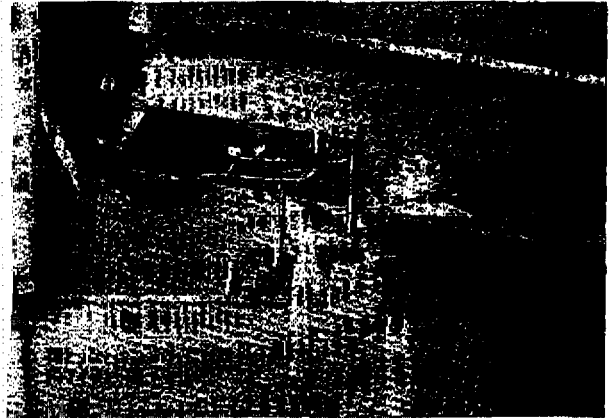

FIGURE 4.4 BASSINET TILT CONTROL
1. **CHECK THE MATTRESS TILT CONTROL** (Figure 4.4) by pulling up on the lever located at the bottom rear of the Bassinet while supporting the rear lower edge of the Bassinet with
1. Connect the Patient Circuit to the Patient Outlet (refer to Figure 4.4).